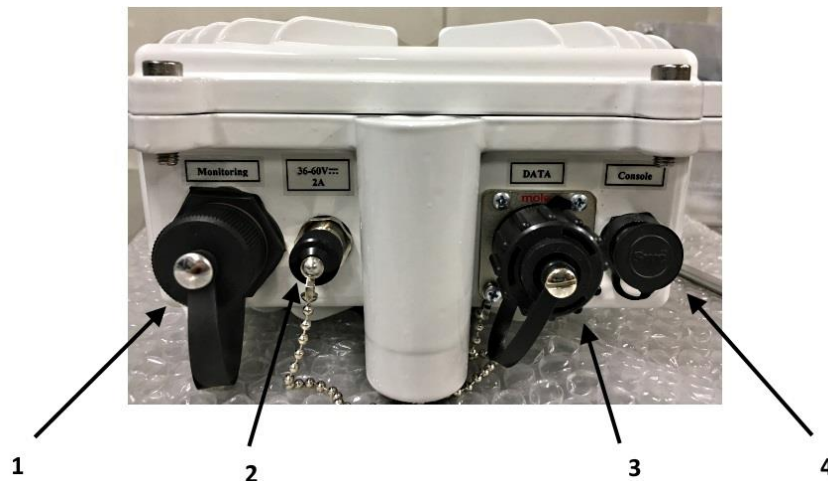

Figure 3: Photo of sockets on the radio body
3. Directly connect of the Admin PC (notebook with Ethernet port) to the radio. This way usually used only in some situations of initial installation of the link or at link repair works. Default IP addresses are 192.168.127.254 for **Hi** radio, while **Lo** - 192.168.127.253. Use stationary cable with RJ-45 connector that come from radio to switch and connect it to your notebook. You can also connect notebook to #1 MONITORING socket on the radio directly, using twisted pair cable with RJ-45 connectors if needed (be sure radio's external Power Supply is ON to get access). See Fig.3 below for radio's sockets identification.